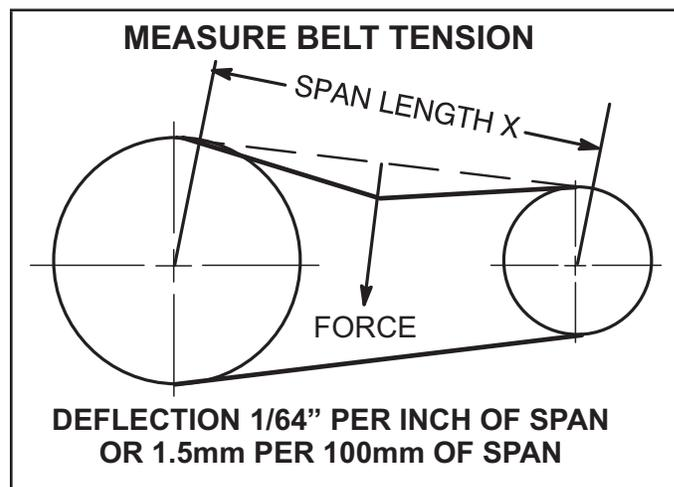

FIGURE 15
- 1 - Measure span length X. See FIGURE 15.
- 2 - Apply perpendicular force to center of span (X) with enough pressure to deflect belt 1/64" for every inch of span length or 1.5mm per 100mm of span length.